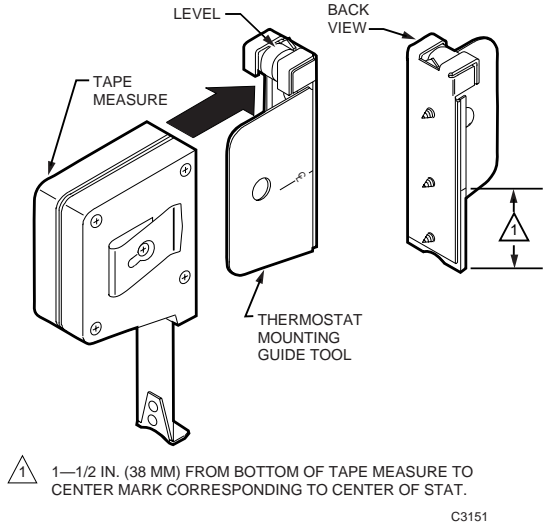

Fig. 31. Tape Measure and Thermostat Mounting Guide Tool.
- Tape Measure CCT422 (Fig. 31)
- Thermostat Mounting Guide Tool CCT690 (Fig. 31)